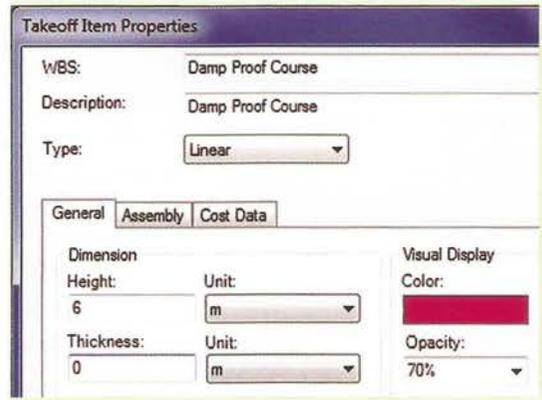

Fig 35: Takeoff Items Properties
4. Double-click the new item to open the Takeoff Item Properties dialog (Figure 35).